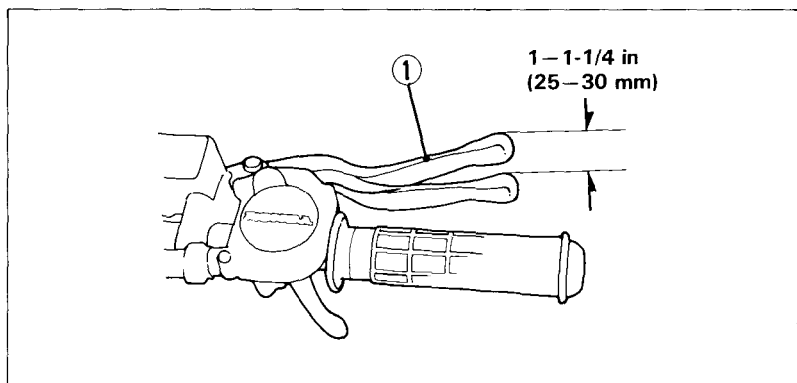

Fig. 4-21
1. Measure the distance the brake lever (Fig. 4-21) moves before the brakes start to take hold. Free play, measured at the tip of the front brake lever (1) should be within 1 — 1-1/4 in (25—30 mm).